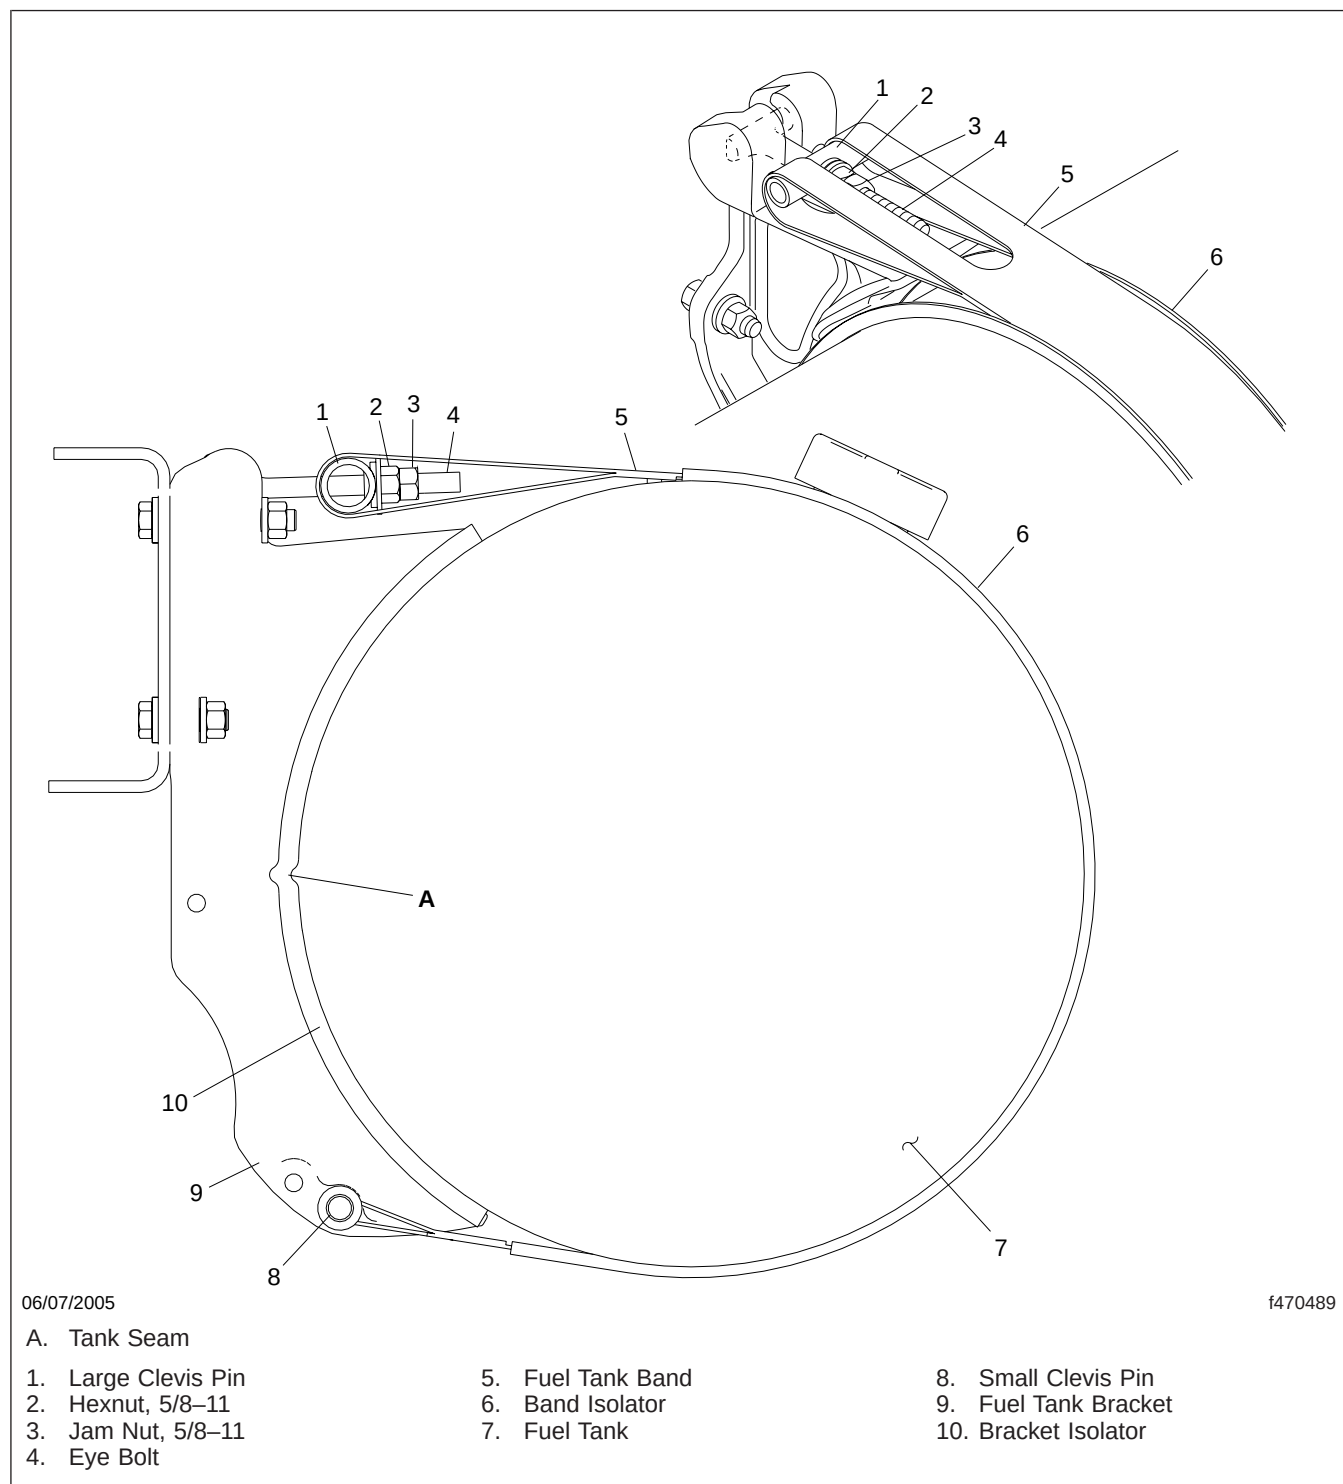

Fig. 1, Fuel Tank Band Assembly
2. Remove the fasteners that attach the bracket to the frame rail, and remove the bracket. See Fig. 1.
- 3.2 Position the tank bracket against the outside of the frame rail. See Fig. 1.